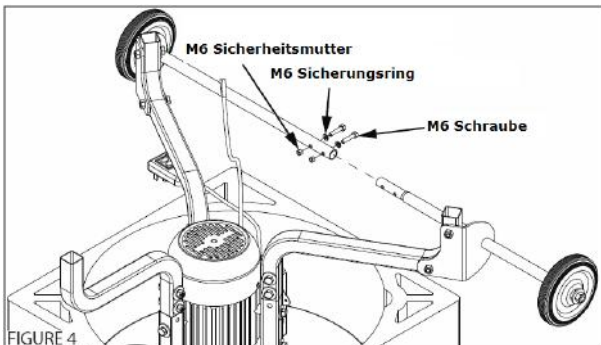

FIGURE 4
4. Assemble axles with transport wheels (**FIGURE 4 & 5**).
5. Assemble axles with transport wheels (**FIGURE 4 & 5**)